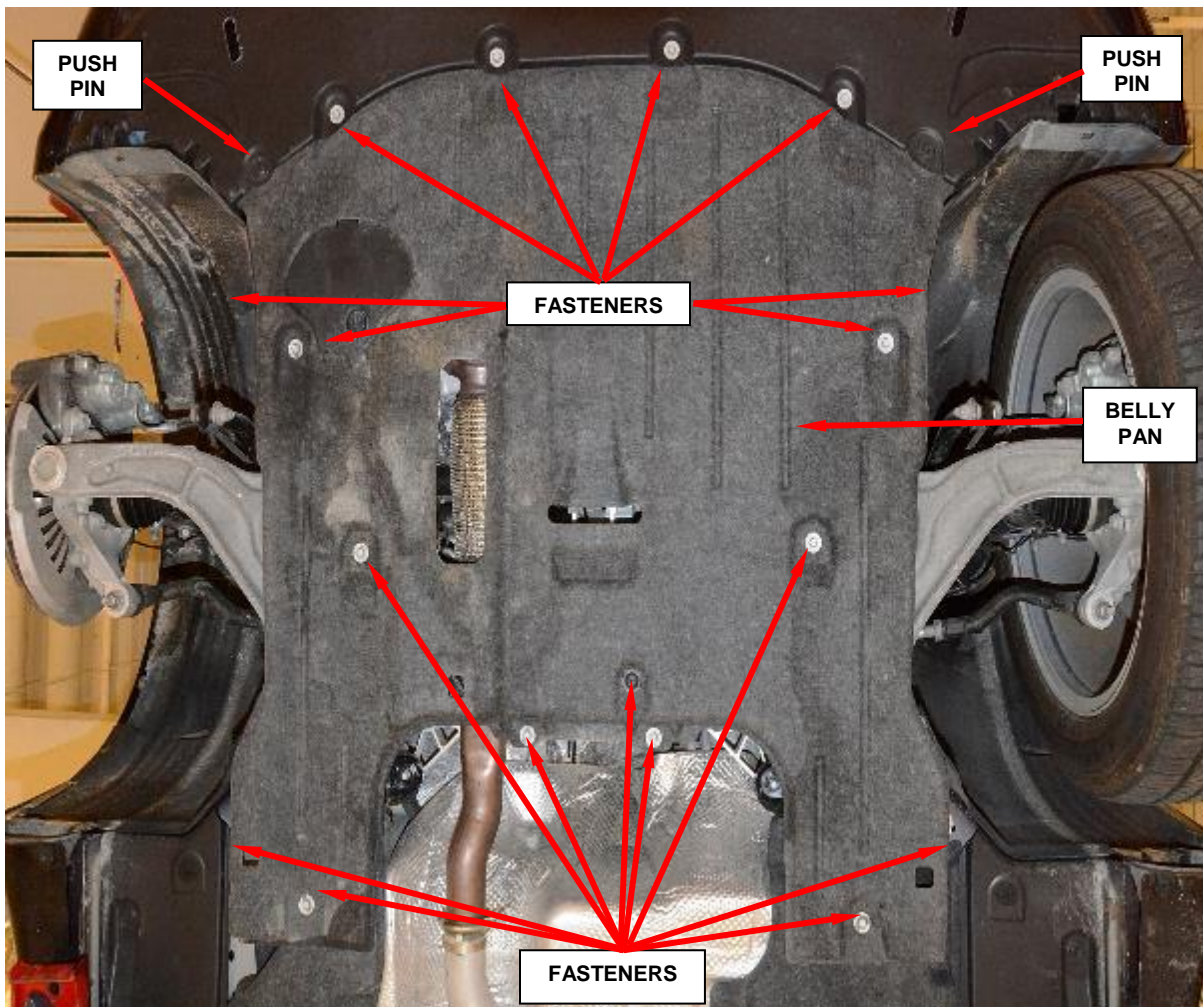

Figure 2 – Belly Pan
4. Remove and save the engine belly pan fasteners, push pins and remove the belly pan, if equipped (Figure 2).